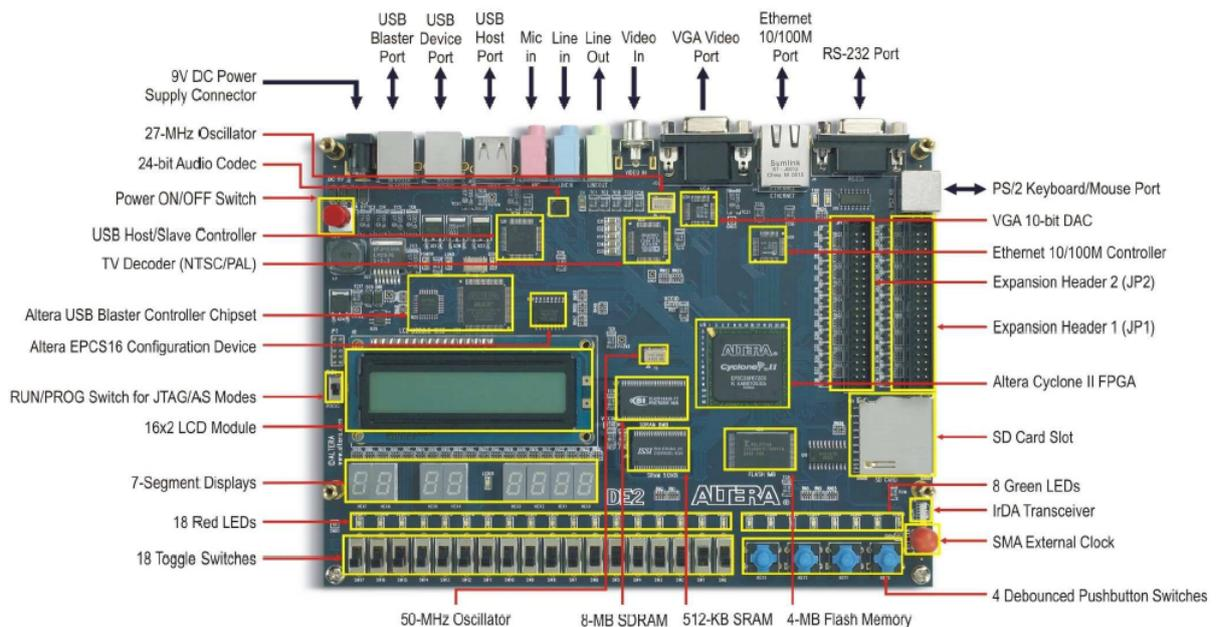

Figure 2.1. The DE2 board.
Get an orientation: Look at the *Contents* and Read the headlines of the five chapters. See fig 2.1 of the User Manual (as copied below from [3]):
->>> ERROR: JP1=GPIO_0 and JP2=GPIO_1 are exchanged in Fig. 2.1 above!
What is the labeling mistake in figure 2.1? Would be right?